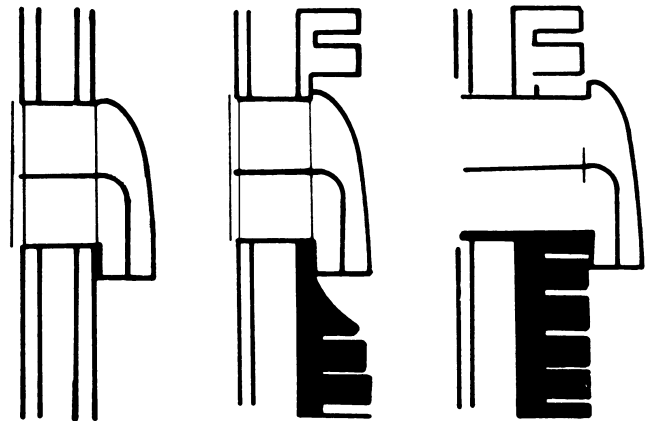

Fig. 6
4. Now work from the outside. Using hole as a center point, draw a circle on outside wall 9 $\frac{1}{8}$ " in diameter. Saw opening. In case of brick or stone, use hammer and chisel to make opening. (See Figure 6.)